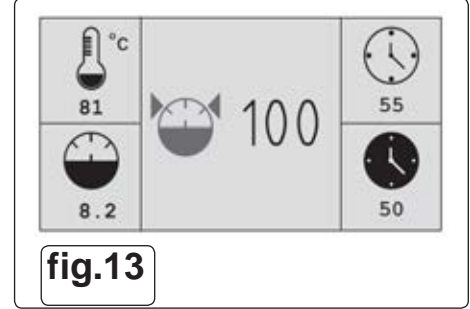

fig.13
6.3.5. **Maximum pressure setting (fig.13)**
For example a reading of "100" shows 10,0 bar (as shown fig.13).